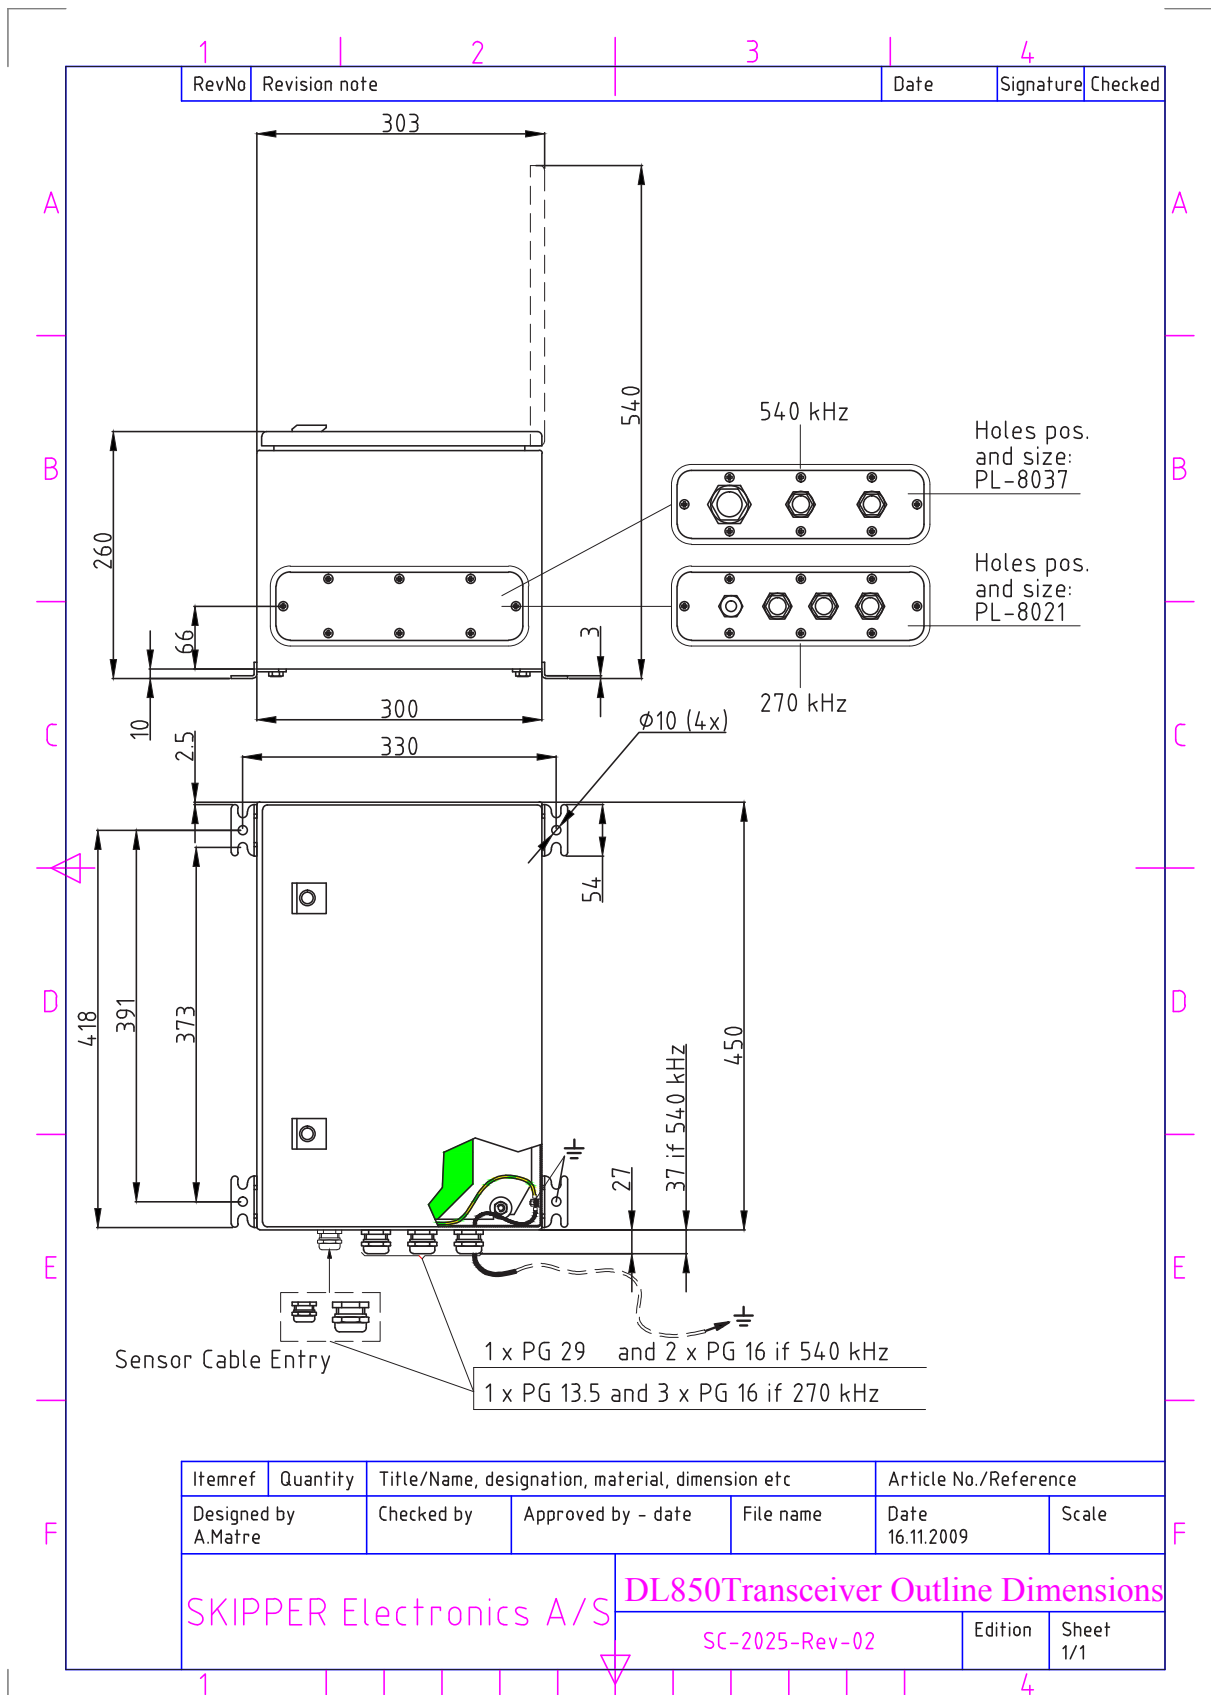

Fig. 10.6. Transceiver Unit Dimensions
- Fig. 10.6. Dimensional drawing of transceiver unit. See “Transceiver Unit Dimensions” on page 72.